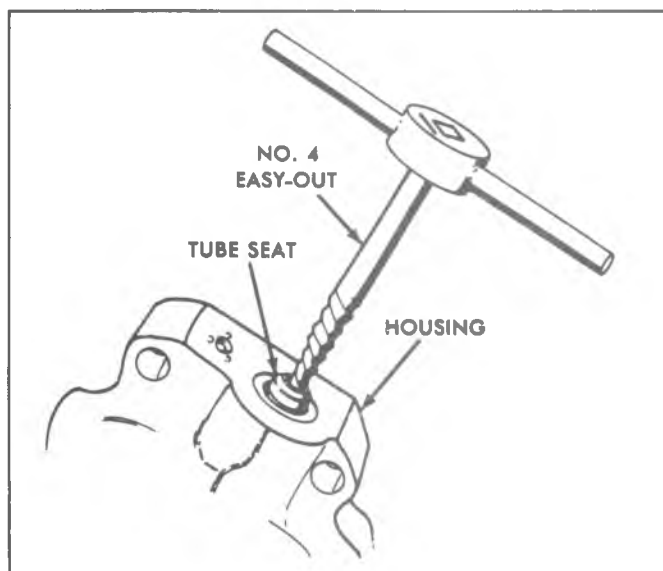

Fig. 5-54--Removing Tube Seat
4. Remove tube seat using No. 4 easy-out as shown in Figure 5-54.